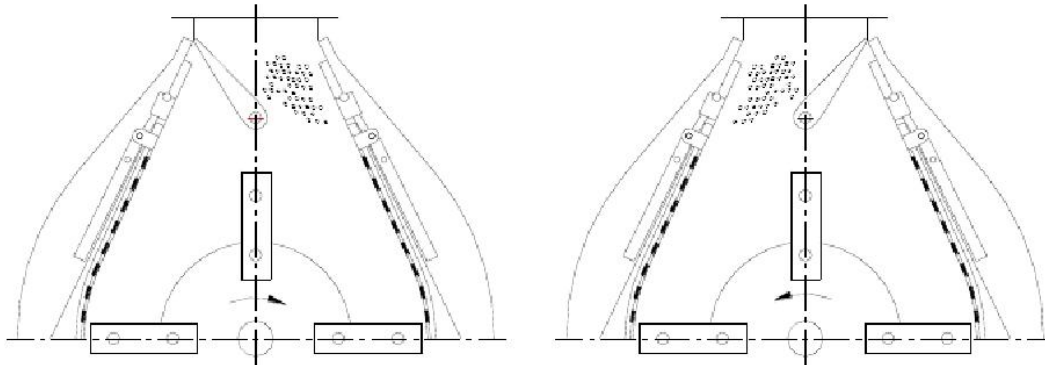

Figure 3 Schematic diagram of feed guide plate direction and spindle steering
3. The machine should be equipped with a starting device, protective device and electrical instrument of corresponding power. The rotation direction of the main shaft of the crusher is determined by the feeding direction, which is controlled by the feeding guide mechanism. The direction of the feeding guide plate is changed manually or by the cylinder with an electric control reversing valve, and the rotation direction of the motor is automatically controlled by the travel switch. Figure 3 is a schematic diagram of the matching of the feeding guide plate direction and the main shaft rotation direction.